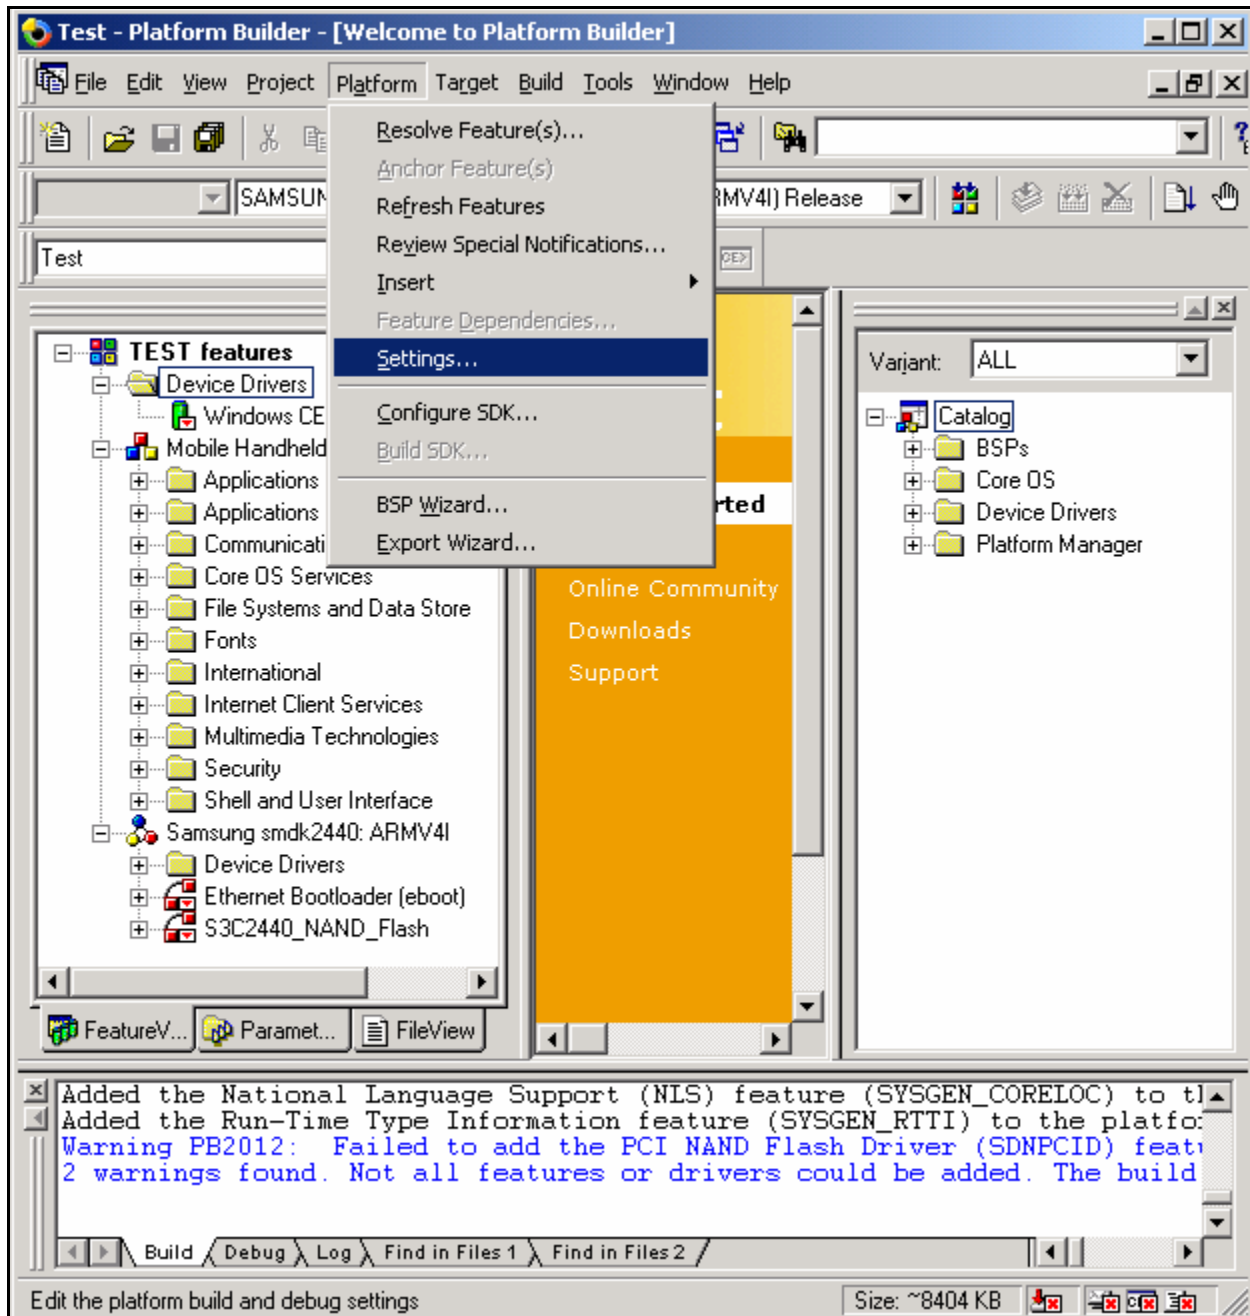

Figure 3-4 Platform Settings
11. Now please select 'Settings...' from the 'Platform' menu in the Platform Builder window as shown below in the figure 3-4.